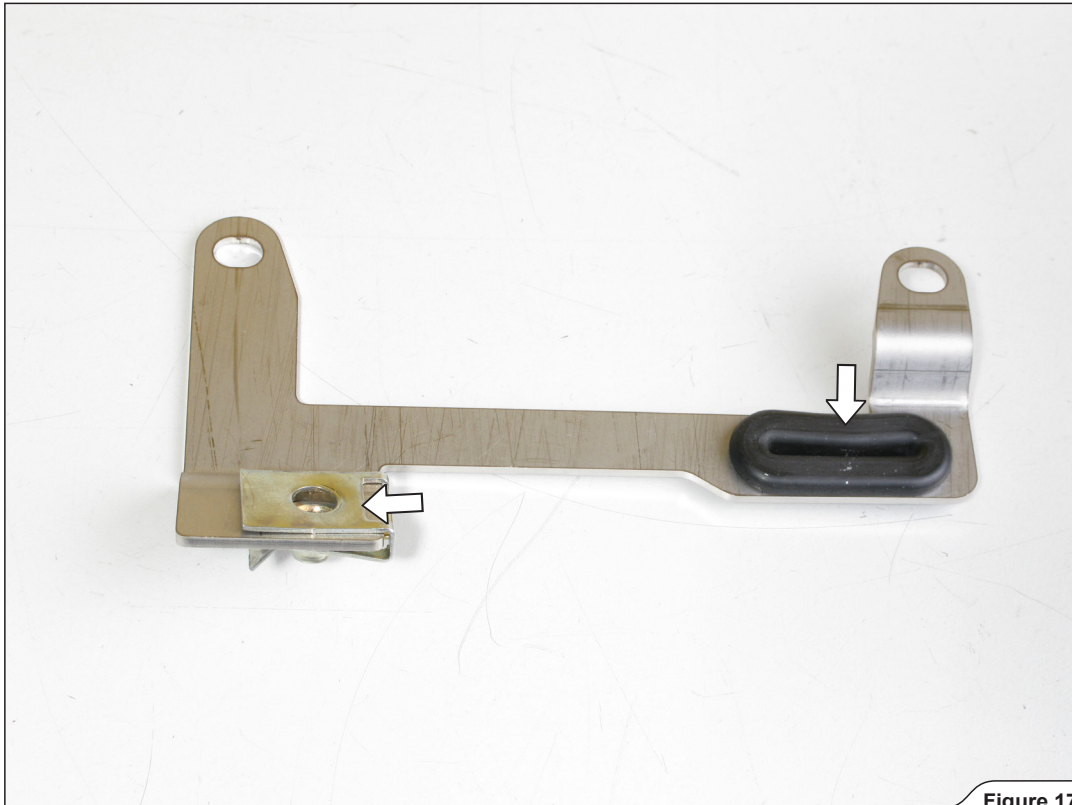

Figure 17
3. **For Z1000 model only:** assemble stock rubber damper and press-on nut from Akrapovič installation kit, onto the additional bracket (**Figure 17**).